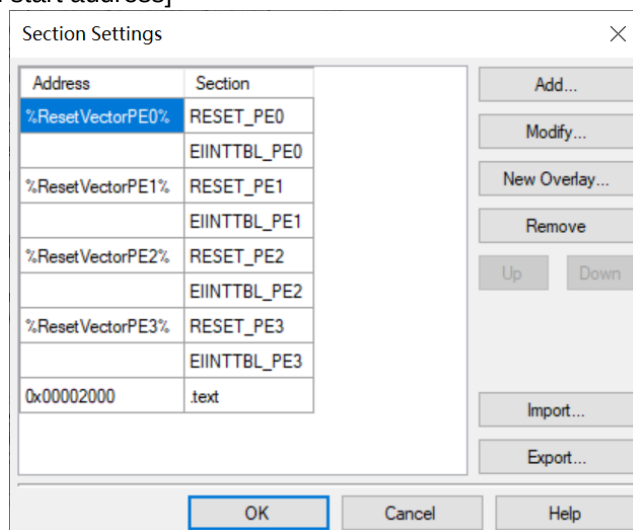
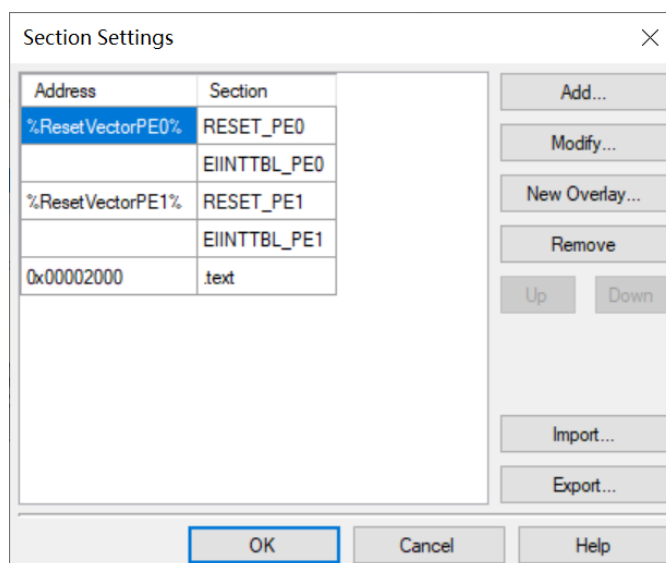
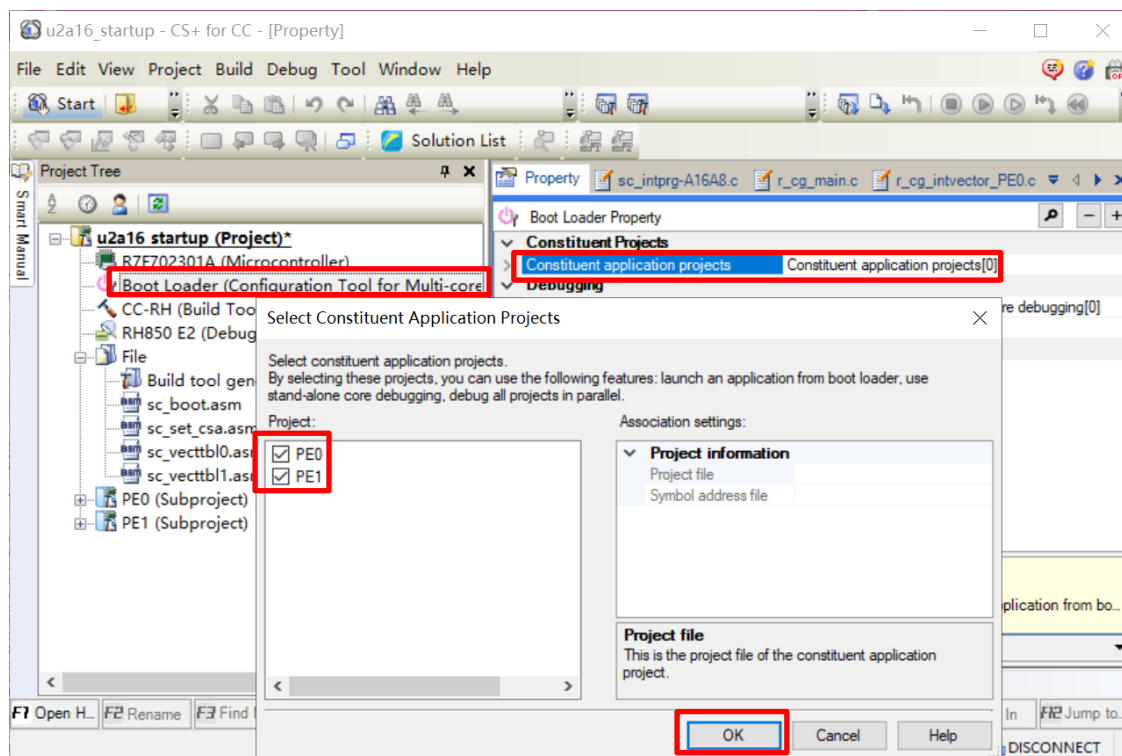

Figure 4-15. Link Section Settings before changing microcontroller
Figure 4-16. Link Section Settings after changing microcontroller
Figure 4-17. Specify the constituent of main project
4.3 Procedure for Changing the Device Update figure: Figure 4-9. Change Microcontroller Figure 4-11. Select device to be changed Figure 4-12. Remove unsupported subprojects Figure 4-14. Confirm microcontrollers are changed Figure 4-15. Link Section Settings before changing microcontroller Figure 4-16. Link Section Settings after changing microcontroller Figure 4-17. Specify the constituent of main project Add content about removing not supported interrupt vector table and relative figure Figure 4-13. Remove unsupported interrupt vector table in (1) Changing the microcontroller, c) Change subprojects microcontroller